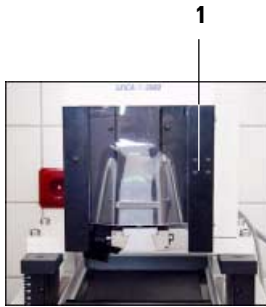

Fig. 2.1
- The miller is equipped with a protective cover made of plexiglass (1). When the cover is moved to the upper limit position (1, Fig. 2.1) the miller is automatically blocked and cannot be started.
For any manipulations in the milling area (such as inserting millers, fine adjustment of specimen height etc.) the protective cover (1, Fig. 2.1) must be in the upper limit position.